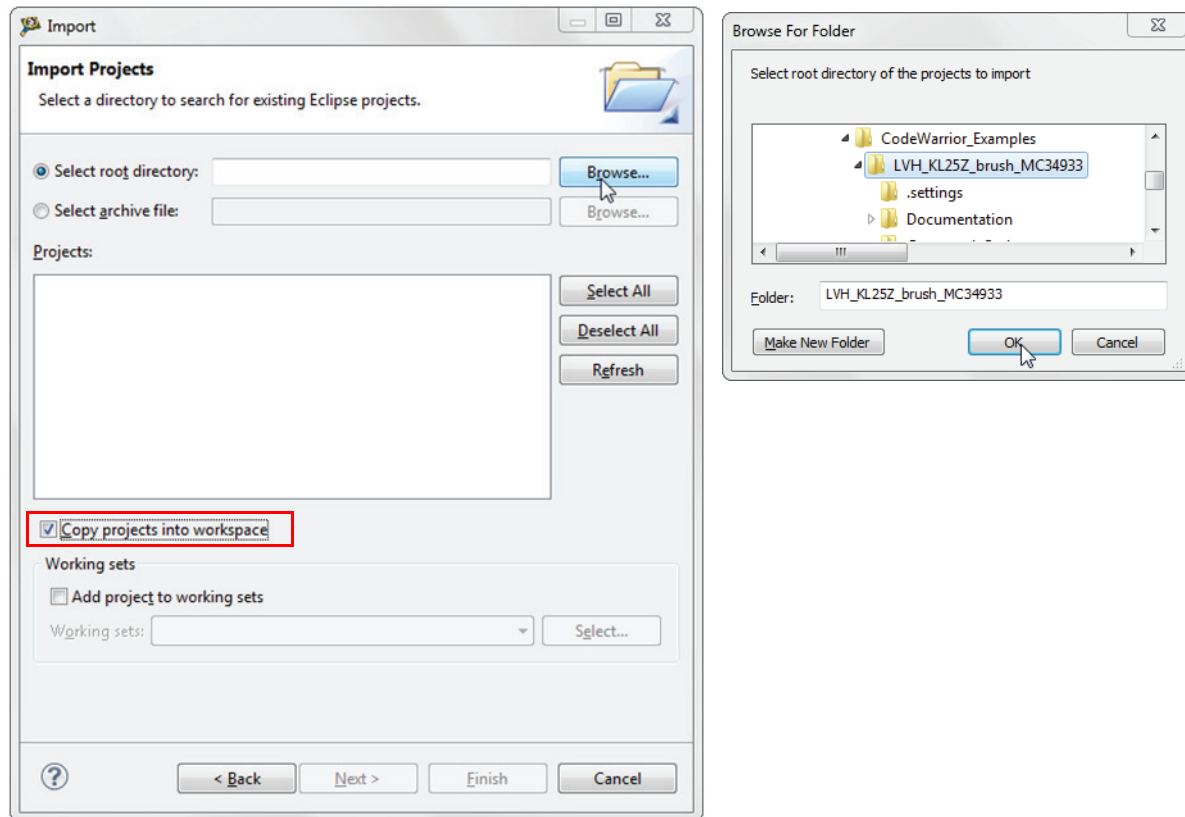

Figure 8. Example Project import
2. Locate the example in folder: LVHBridge_PEx_SW\CodeWarrior_Examples (see Figure 8, which shows LVH_KL25Z_brush_MC34933 as the imported project). Then click **Finish**.